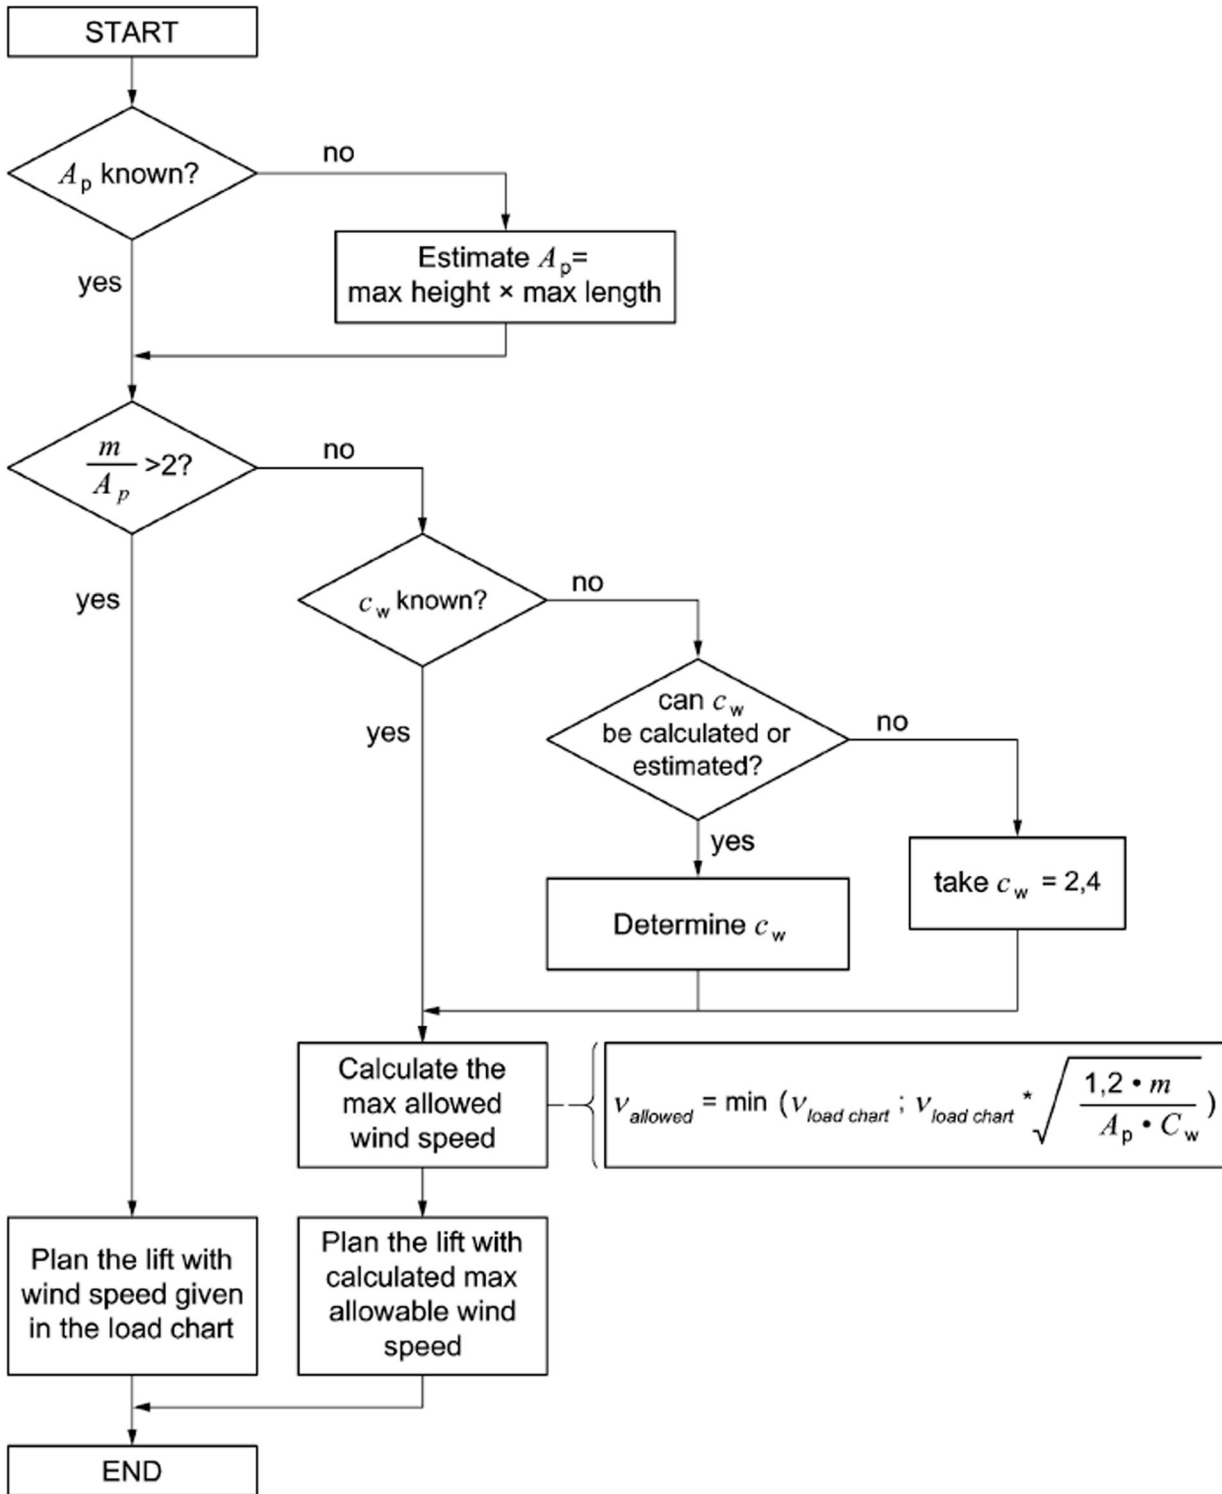

Fig. 724: Simplified method to determine the maximum admissible wind speed in accordance with EN 13000 Appendix N
- ▶ Note that the area exposed to wind of the load considered in the load calculation is  $1.2 \text{ m}^2/\text{t}$  (cw value as factor already considered). If the load's area that is exposed to wind is larger: Calculate maximum permissible wind speed (see: fig. 724, page 594) or contact Liebherr customer service. Loads may not be picked up until this evaluation has been performed.